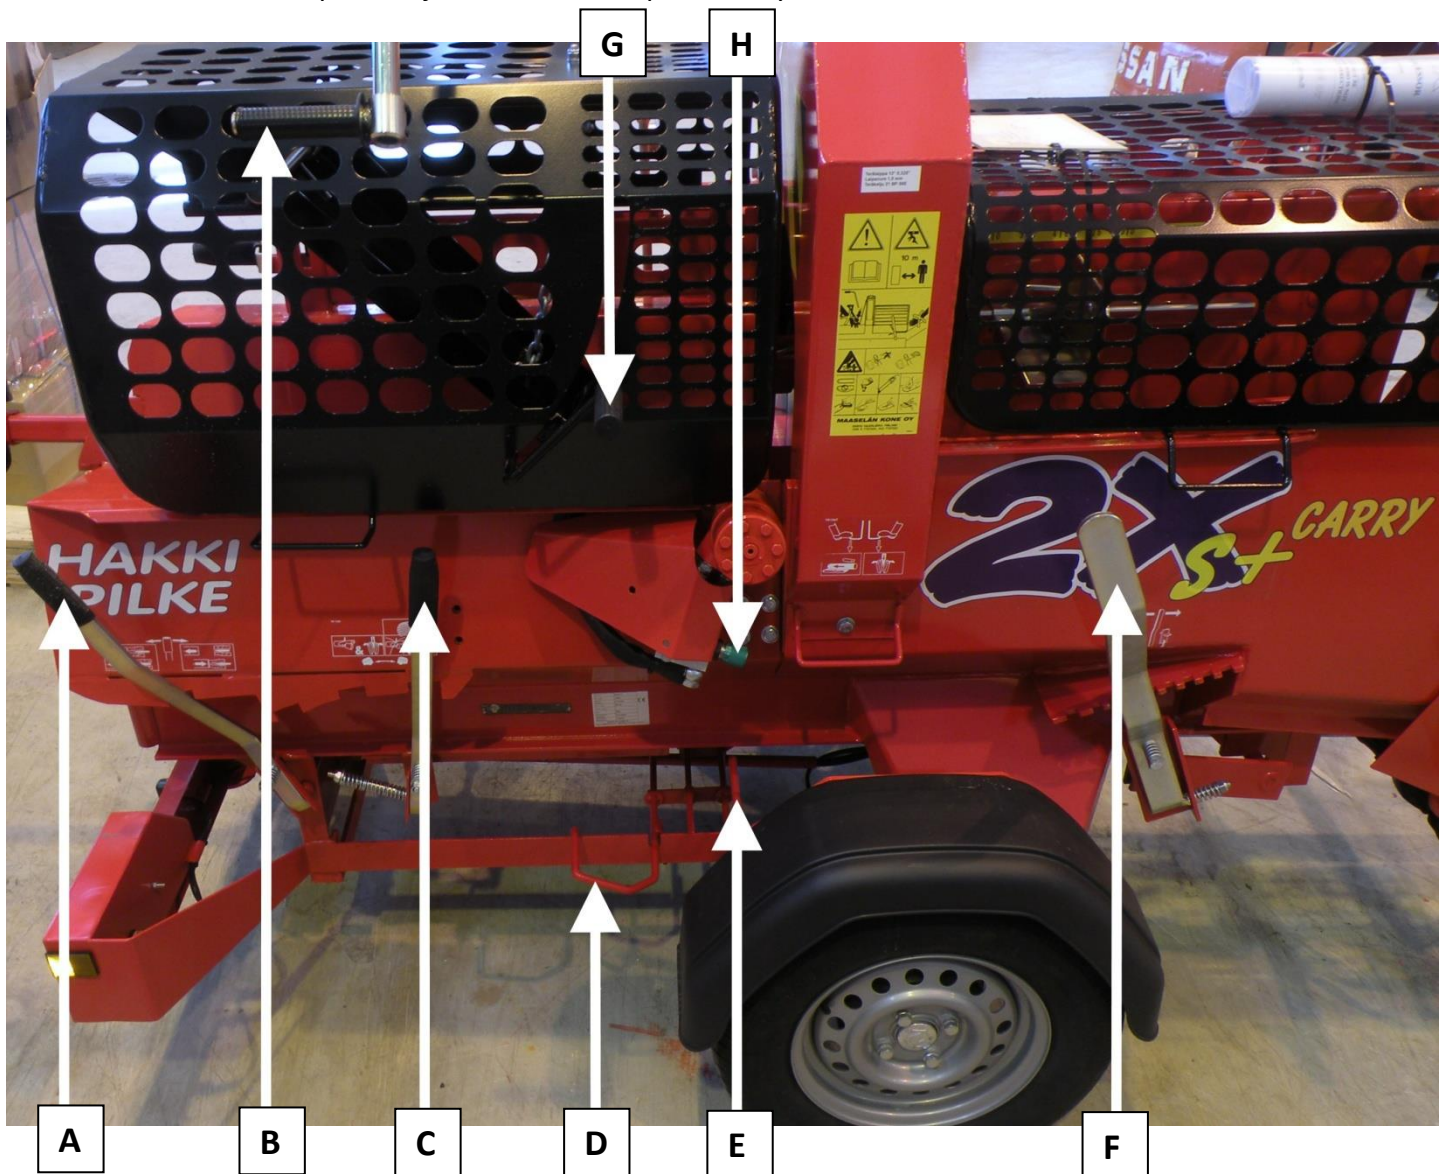

Figure 24.
The control devices of the Hakki Pilke 25 Carry log splitter are presented in Figure 24. The names and functions of the control devices are as follows:
1. Place the guard lock lever C (in Figure 24) into the STOP position, and open the splitting blade guard.
Adjust the splitting blade to the desired height with lever F (in Figure 24). The blade is in the highest position when the lever is all the way to the left and in the lowest position when the lever is all the way to the right.
The belt of the Hakki Pilke 25 Carry log splitter's output conveyor is driven by a hydraulic motor, which means that the belt speed can be adjusted with the adjuster knob H (in Figure 24). To increase belt speed, screw the adjuster open (anticlockwise). To decrease belt speed, screw the adjuster closed (clockwise). If necessary, you can also stop the belt entirely by closing the adjuster G all the way.
To reverse the input conveyor roller, press the reverse pedal D in Figure 24.
The wood press keeps the logs in place when they are being sawed. If necessary, aid the wood press by pressing down lever G (Figure 24), which helps to keep the log firmly in place during sawing.
7. In extremely cold weather, repeat the cutting motion with the activation lever F (in Figure 24) to warm up the oil until the motion is performed at normal speed.
8. Activate the cutting motion and stop it by turning the guard lock lever C (in Figure 24) to the STOP position. Note! The cutting flange must be in the raised position.
10. Test run the input conveyor's input motion with the operating lever B and the return motion with the reverse pedal D (in Figure 24).
11. Ensure that the path of the wood press is normal by using the wood press handle G as seen in Figure 24.
The input conveyor feeds the wood to be processed into the splitter. To drive a log into the machine, use the lever B in Figure 24 of Section 4. To reverse the feed, use the reverse pedal D.
3. Lift the lever B (in Figure 24) to start feeding the log into the machine. Continue until the log hits the measurement plate, at which point the input motion must be stopped.
Lower the guard, place the guard lock lever C to the RUN position and re-activate the splitting process with the activation pedal F (in Figure 24).